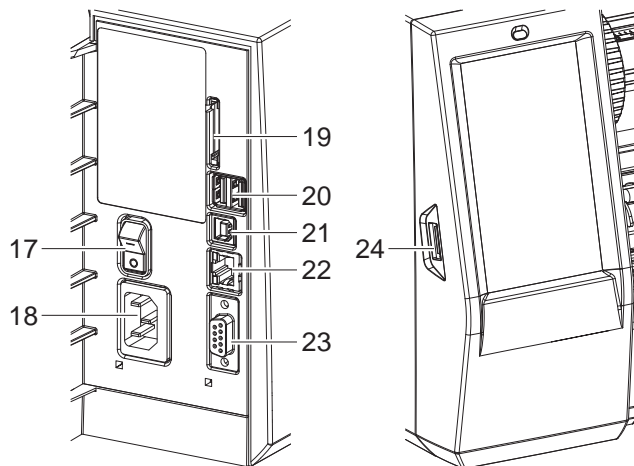

Figure 3 Connections
The standard available interfaces and connectors are shown in Figure 3.
2. Plug the power cable into the power connection socket (18/Figure 3).
- ▶ Switch the printer on at the power switch (17/Figure 3).